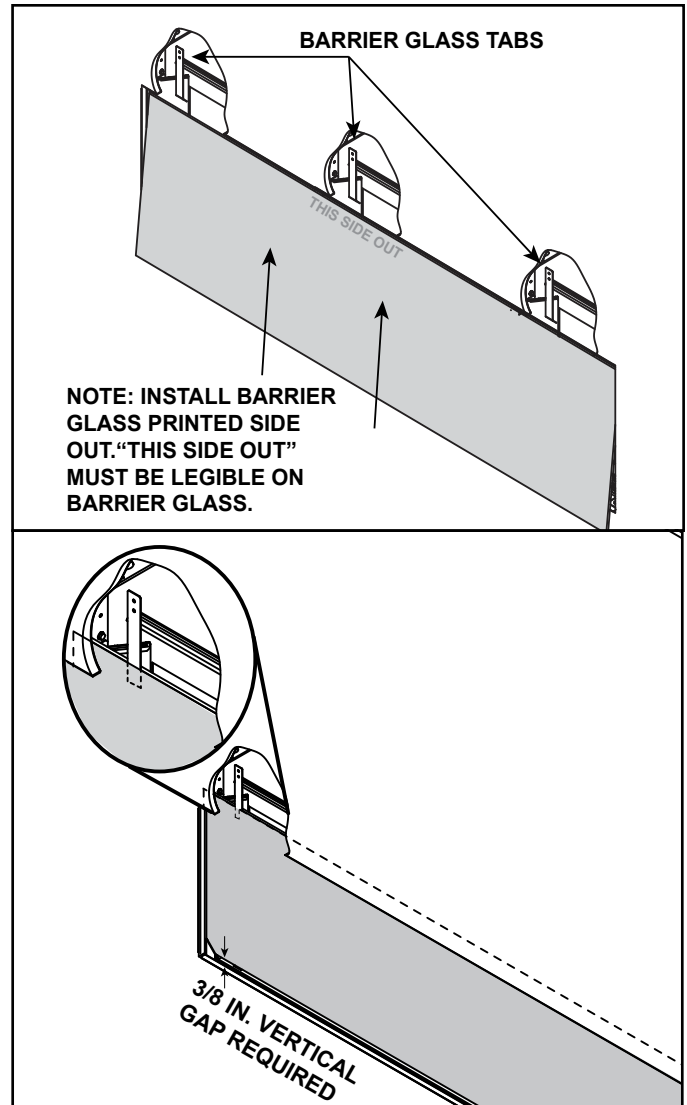

Figure 4.5. Replace Barrier Glass - Clean Face Finish
**NOTE:** Barrier glass must be installed between the finishing material and the barrier glass tabs. If not installed correctly, appliance will not operate. See Figure 4.5.